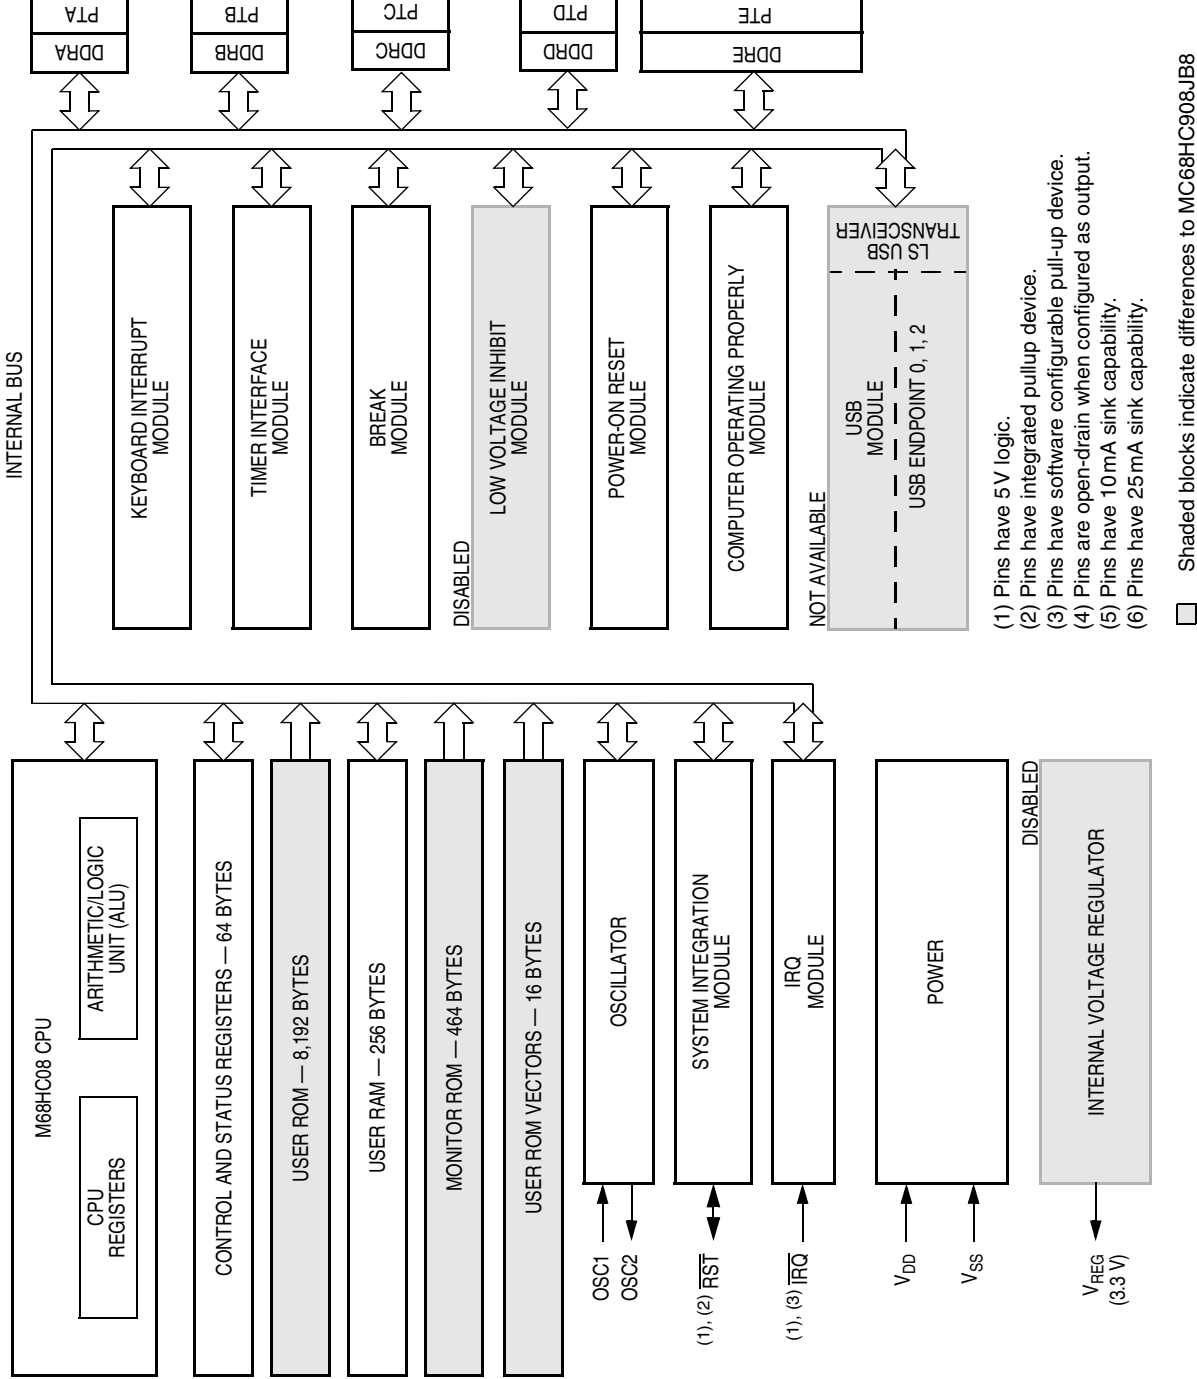

Figure B-1. MC68HC08JT8 Block Diagram
**Figure B-1** shows the block diagram of the MC68HC08JT8.